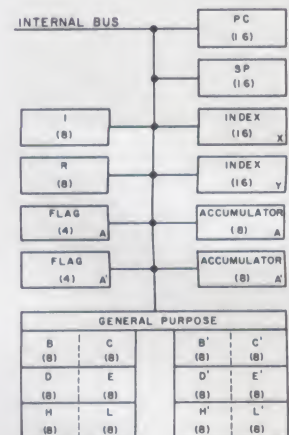

Fig. 3. Internal block diagrams illustrating user accessible registers. (Number in parentheses indicates the number of bits in a register.)
each 16 bits wide. (Refer to Fig. 3.) Three of these registers are general purpose and can also be used as six individual registers that are 8 bits wide. The remaining three registers are the Program Counter (PC), the Stack Pointer (SP), and the Accumulator/Flag. Most arithmetic